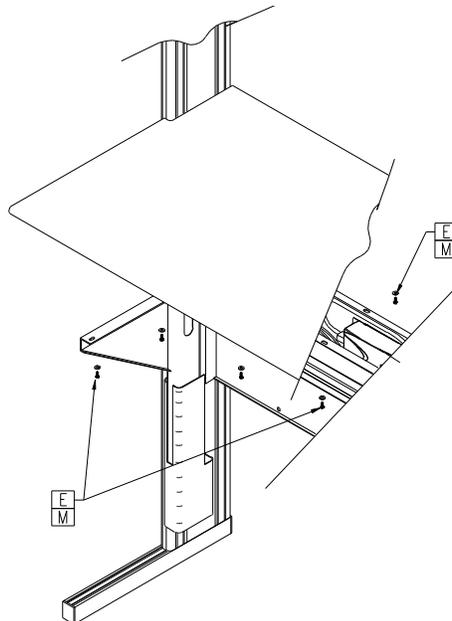

Figure 7
STEP 8: Assemble the worksurface hat sections to the underside of the worksurface as instructed in the D4 Assembly Instructions. Set the worksurface onto the worksurface support assemblies as shown in Figure 7 sliding it back between the bench uprights carefully so that it sits on top of the rear guard panel. Align the inserts in the underside of the worksurface with the slots in the worksurface support assemblies and the rear guard panel and thread the 1/4-20 x .75 hex head bolts item E and 1/4 flat washers item M into the inserts in the worksurface. **DO NOT TIGHTEN** hardware at this time.